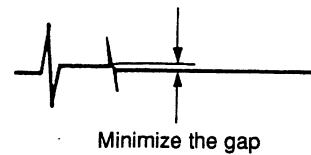

Fig. 2-3.
3. Connect an oscilloscope to Pin ⑮ of IC902.
4. As shown in Fig. 2-3, adjust the BRIGHT data until the waveform becomes flat.